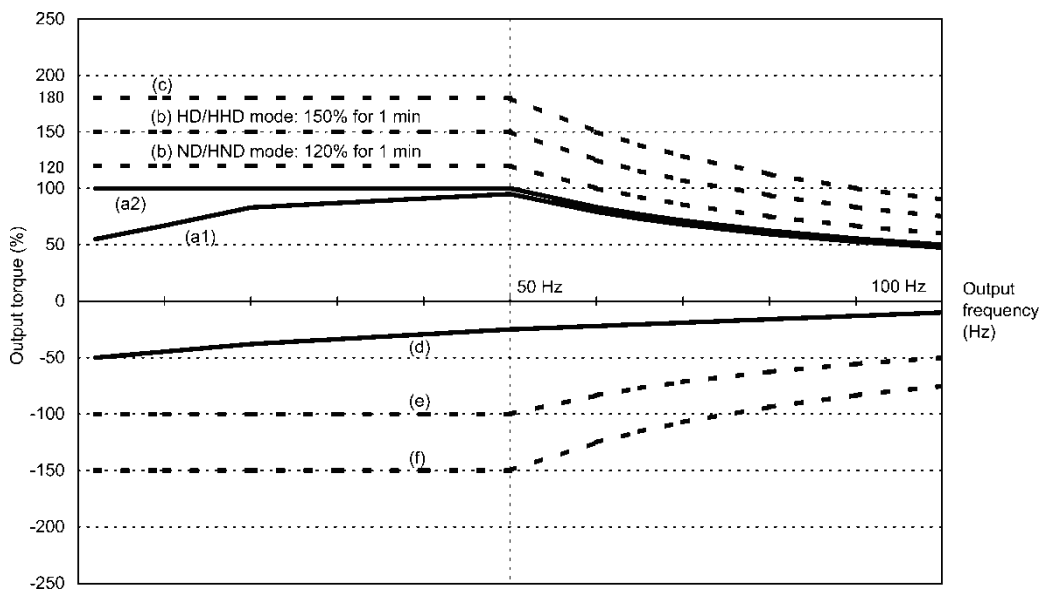
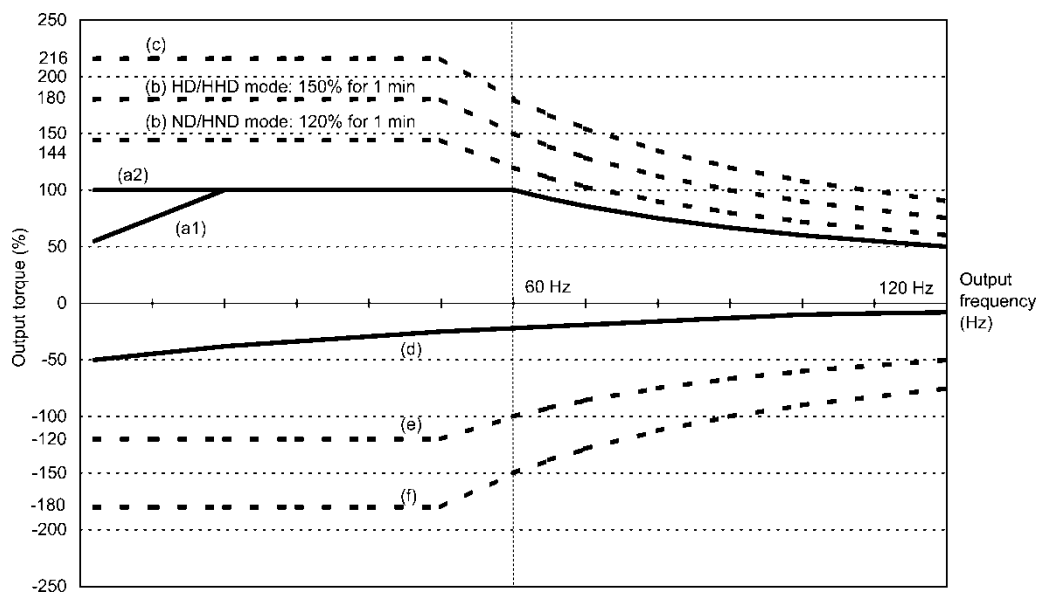

Figure 10.1-1 Output torque characteristics (base frequency: 50 Hz)
Figure 10.1-2 Output torque characteristics (base frequency: 60 Hz)
Figure 10.1-1 and Figure 10.1-2 graph the output torque characteristics of motors against the output frequency for 50 Hz and 60 Hz base frequencies. The horizontal and vertical axes show the output frequency and output torque (%), respectively. Curves (a) through (f) depend on the running conditions.
1) Standard motor (Curve (a1) in Figure 10.1-1 and Figure 10.1-2)
2) Motor exclusively designed for vector control (Curve (a2) in Figure 10.1-1 and Figure 10.1-2)
(2) Maximum short-term driving torque (Curves (b) and (c) in Figure 10.1-1 and Figure 10.1-2)
(3) Starting torque (around the output frequency 0 Hz in Figure 10.1-1 and Figure 10.1-2)
(4) Braking torque (Curves (d), (e), and (f) in Figure 10.1-1 and Figure 10.1-2)